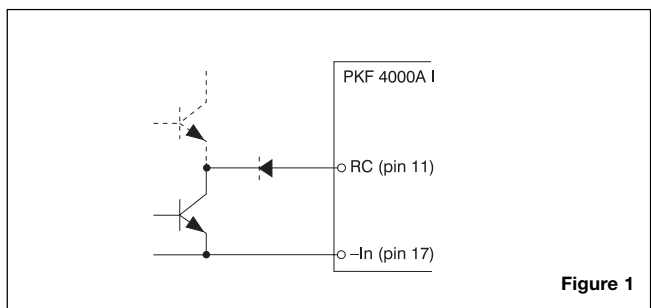

Figure 1
Turn-on or turn-off can be realized by using the RC-pin. If pin 11 is connected to pin 17 the power modules turns off. Normal operation is achieved if pin 11 is open (NC). To ensure safe turn-off the voltage difference between pin 11 and 17 shall be less than 1.0 V. RC is an open collector compatible input. A sink capacity of 1mA is needed. (see fig. 1).